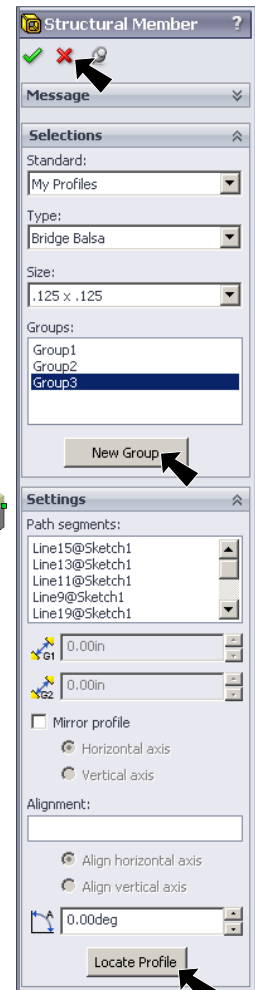

Fig. 26
Step 5. Click **New Group (3)** button, **Fig. 26**
Step 6. Click **Locate Profile** button, **Fig. 26**.